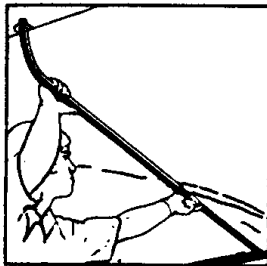

FIG. 16
38. To complete and to support the canvas enclosure over the bed (front and rear), attach the bed bow support by inserting the straight end into the bed bow. Insert the rounded end of the bed bow support into the roof retainer. (See Figure 16.)